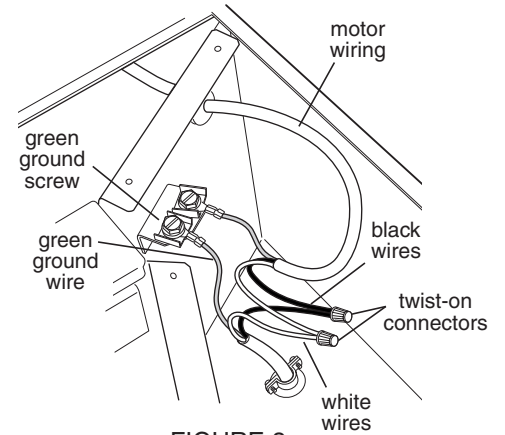

FIGURE 3
3. Make the wiring connections. (See FIGURE 3 and wiring diagram.)